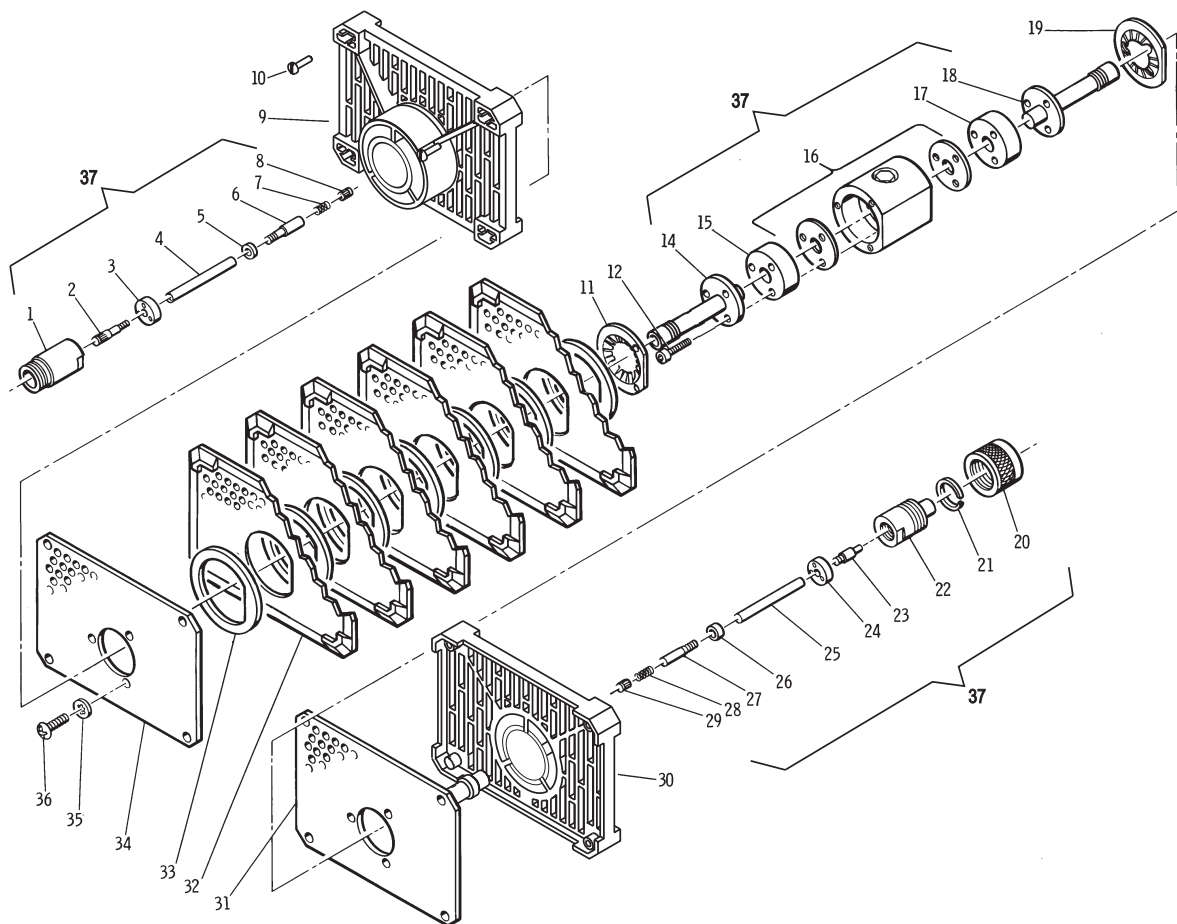

Figure 2 Attenuator Exploded View
Repair of the attenuator is limited to the replacement of the attenuator cartridge assembly (16) shown in Figure 2.
Refer to Figure 2 to identify the numbered items in the following procedure.
Table 4 *Attenuator Cartridge Assembly Parts (Item 16 in Figure 2)*